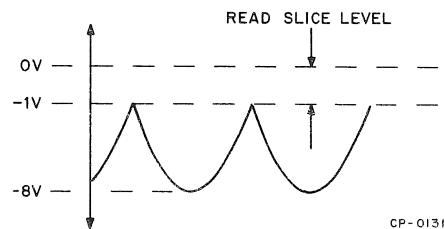

Figure 5-28 Read Slice Level Measurement
7. Measure the compressor waveform as shown in Figure 5-28 and, if necessary, adjust the lower potentiometer on the G060 Module.